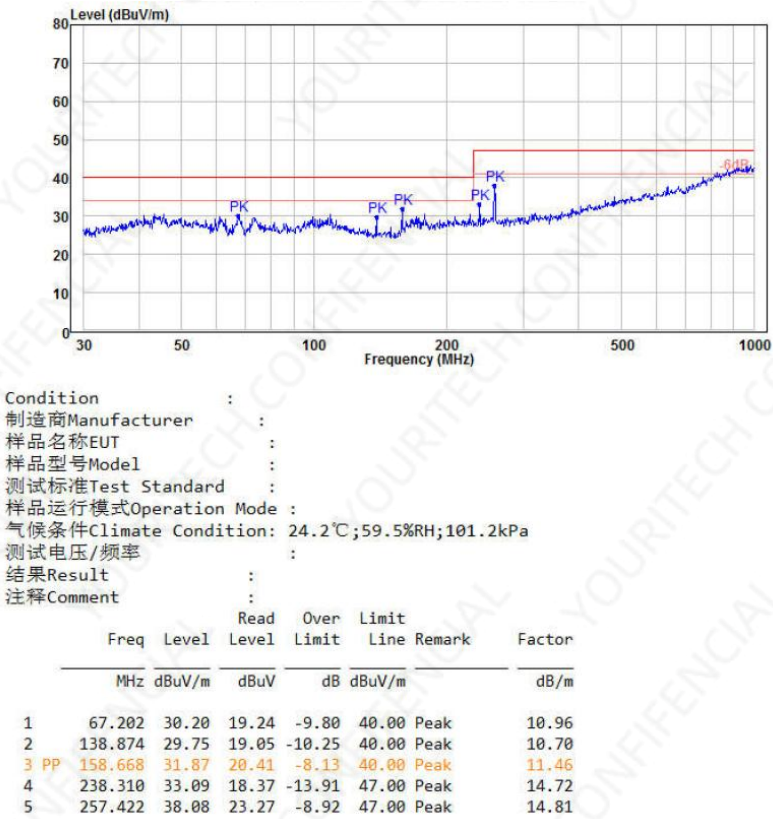

Figure 6-7 Vertical direction of radiation test
2. Radiation test data in the vertical direction, as shown in Figure 6-7.